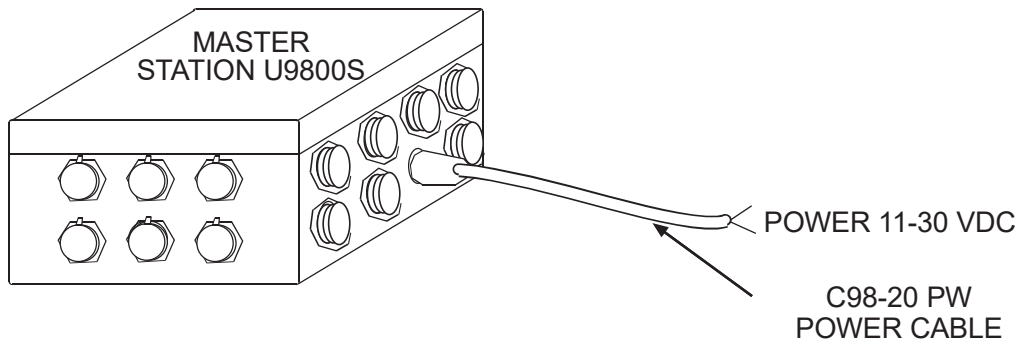

Figure 3: Master Station Power Cable Connection
- ❑ Connect the cable to the jack on the Master Station labeled “Power Cable”, see **Figures 3&4**. To connect the cable to the Master Station, align keyways and push. Then firmly turn collar clockwise until it locks into place. Pull back gently on the cable to ensure connector is properly locked.